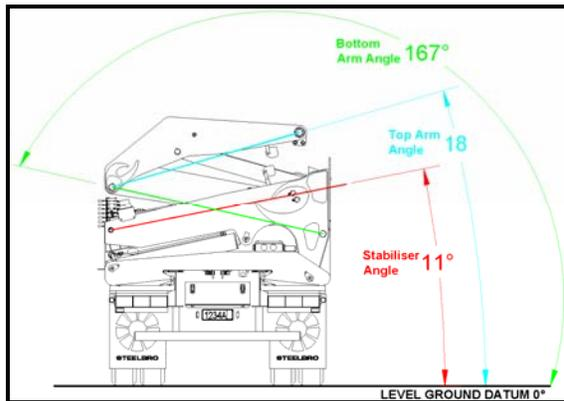

Figure 4
- Check that the Angle Sensor Values are as per Figure 4. Tolerance  $\pm 1^\circ$ .